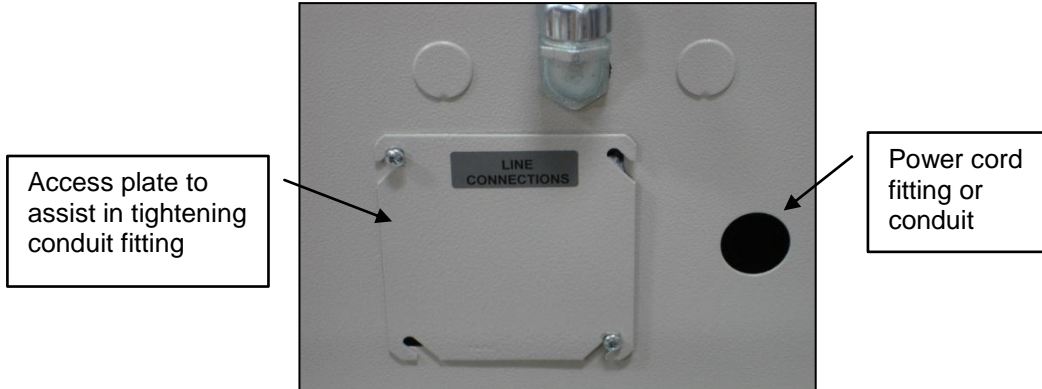

Figure 7. Rear Access Panel for Hard-Wired Connections.
1. Open the knock-out near the rear-access panel (Figure 7).